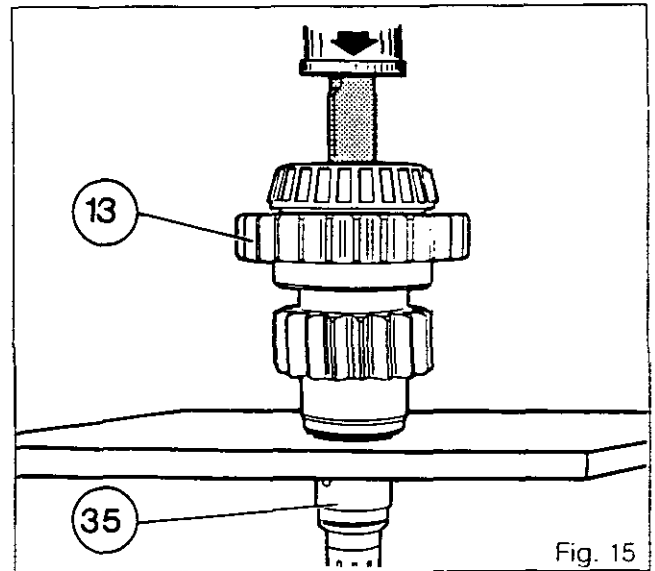

Fig. 15
104. Separate the pinion (13) from the shaft (35) with the aid of a press and a suitable tool (Fig. 15).
**Note: The friction ring (30) is force-fitted in the shaft (35).**